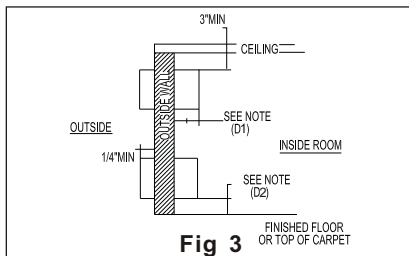

Fig 3
- E) There should be sufficient space margins around the unit to facilitate maintenance and repairs(refer to Fig 3 and 4)